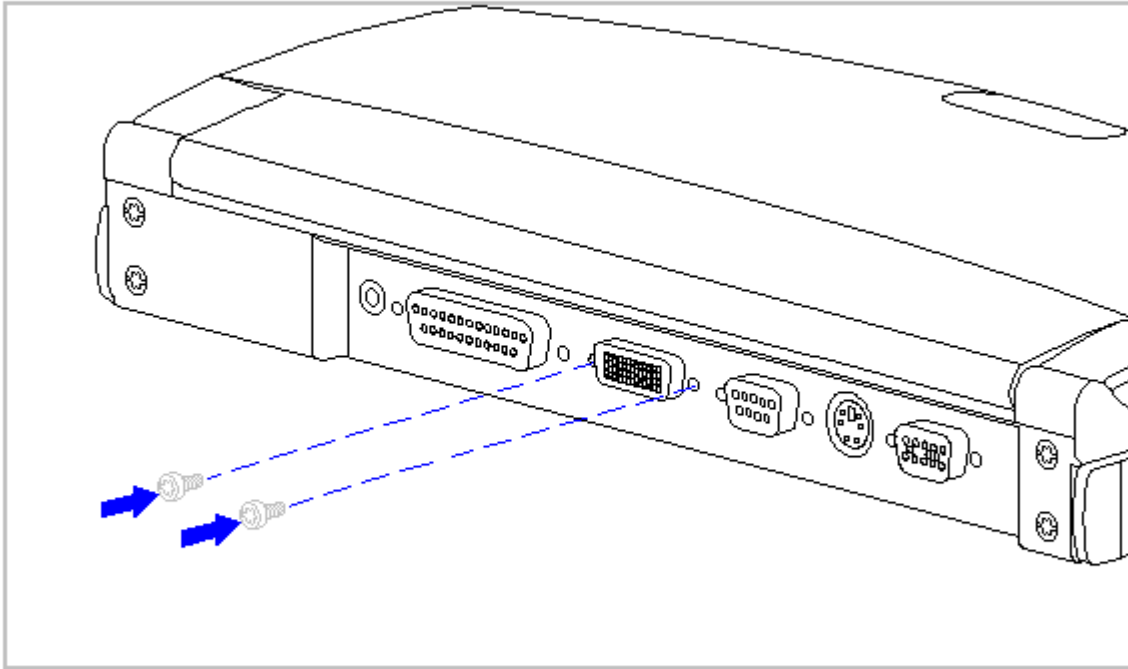

Figure 3-57. Replacing the Alignment Screws (All Models)
1. Replace the two alignment screws on the rear of the system unit module to align the system board (Figure 3-57).